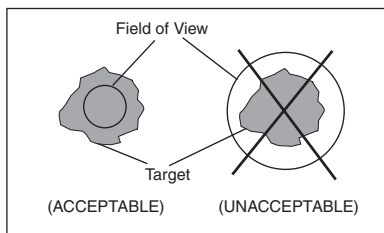
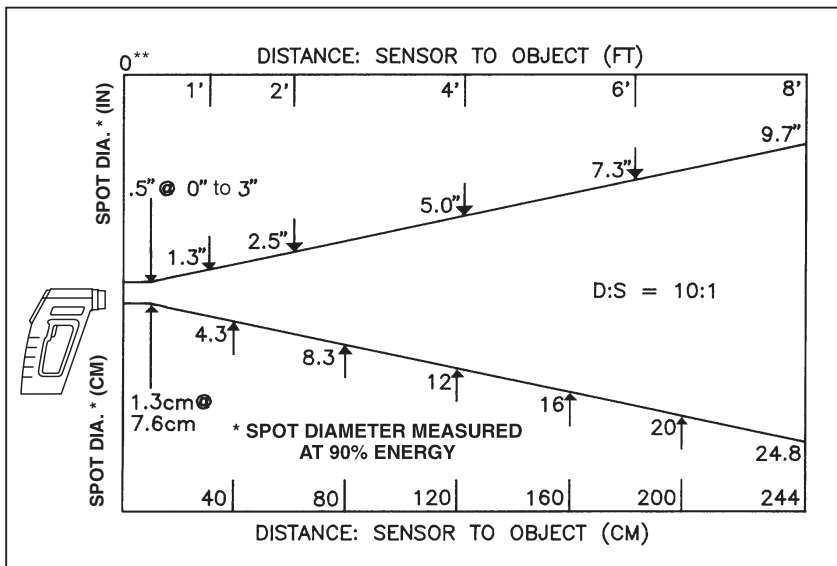

Figure 2-2. Field of View Positions
Figure 2-3. Field of View OS532E, OS530LE
2. The field of view of the thermometer should fall within the area of the target being measured as shown in Figure 2-2. Figures 2-3 through 2-9 show the field of view vs distance for the various thermometers.